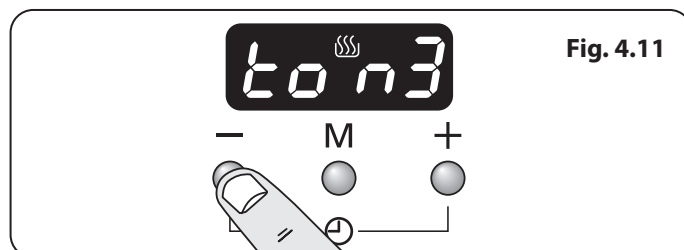

Fig. 4.11
- To select the tone press the [-] button until desired tone is reached (**Fig. 4.11**).